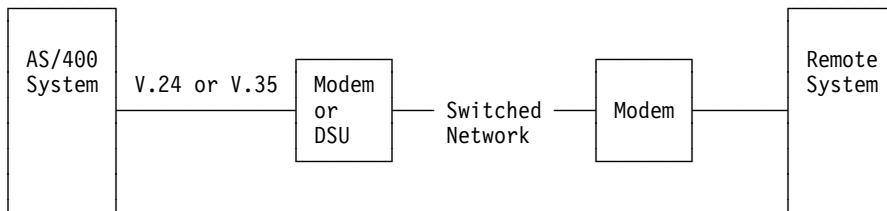

Figure D-2. AS/400 System Capable of Using V.25bis
V.25bis Considerations: Figure D-2 shows a network that can use V.25bis.